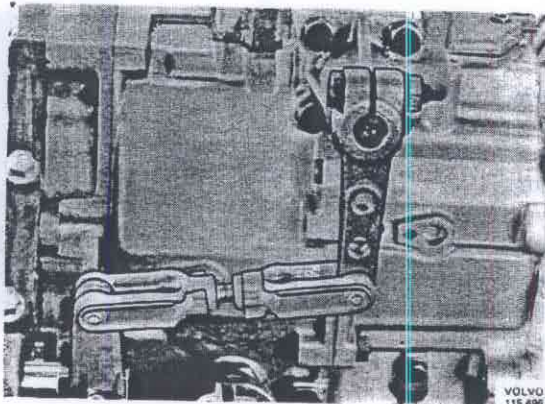

Fig. 43-22. Link
5. Disconnect the cable to the sender on the cover. Remove the link arm from the lever on the auxiliary gearbox, see Fig. 43-22.